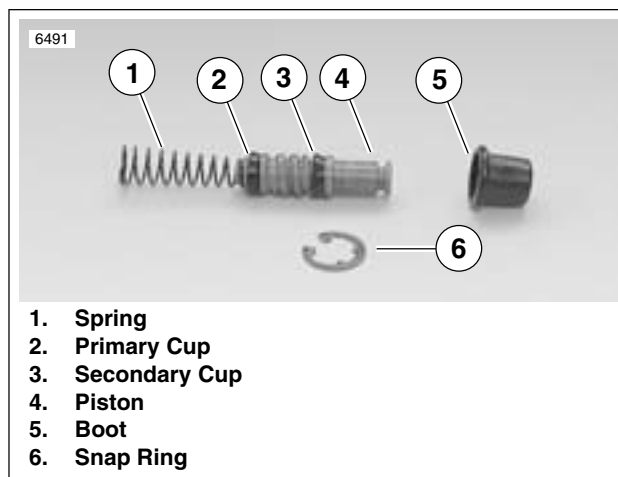

Figure 2-23. Piston Assembly
5. Depress piston assembly and remove internal snap ring (3). Discard snap ring.
6. See Figure 2-23. Remove piston assembly (1-4) from front master cylinder.
1. See Figure 2-23. Check piston assembly components.
- a. Small end of spring (1) sits behind primary cup (2). Large side of primary cup faces spring.
- b. Secondary cup (3) sits within ridge at middle of piston (4).
2. Insert piston assembly, spring first, into master cylinder. Secure with a **new** snap ring (6).
3. Install ridge on boot (5) into groove on piston (4).